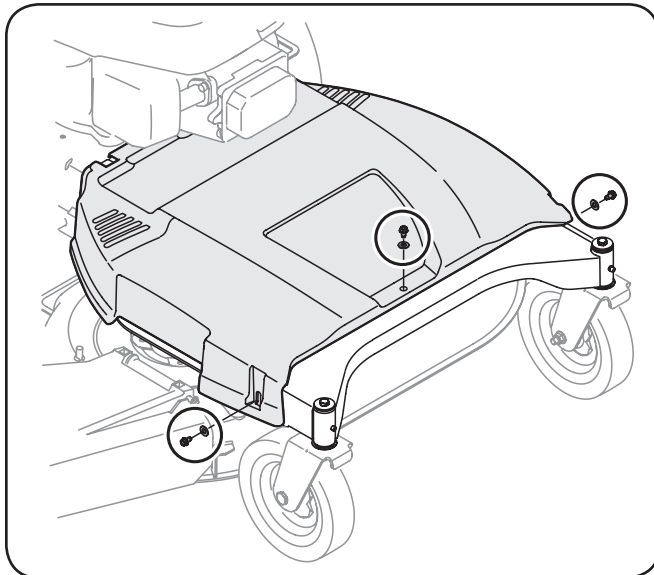

Figure 7-1
1. Remove the belt cover by removing the three screws and washers which secure it to the frame. See Fig. 7-1.
2. Remove the belt cover as instructed earlier in this section. Refer to Fig. 7-1.